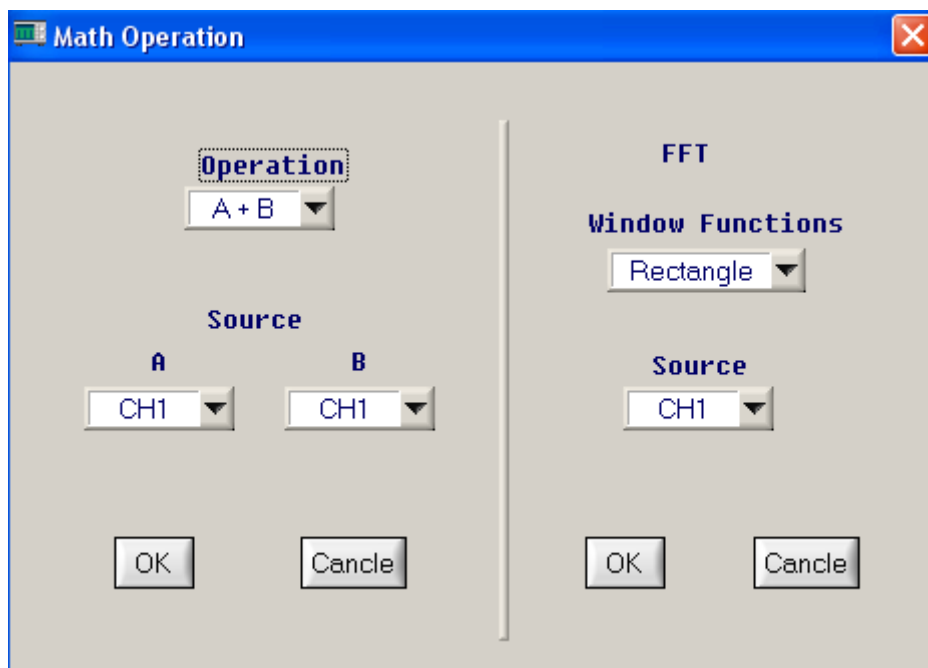

Fig 2-6
- ◆ **Mathematics functions :** When this menu is clicked, a mathematics function dialog box will pop up to enable “mathematics selection” or “FFT mathematics”, as shown in Fig 2-6.